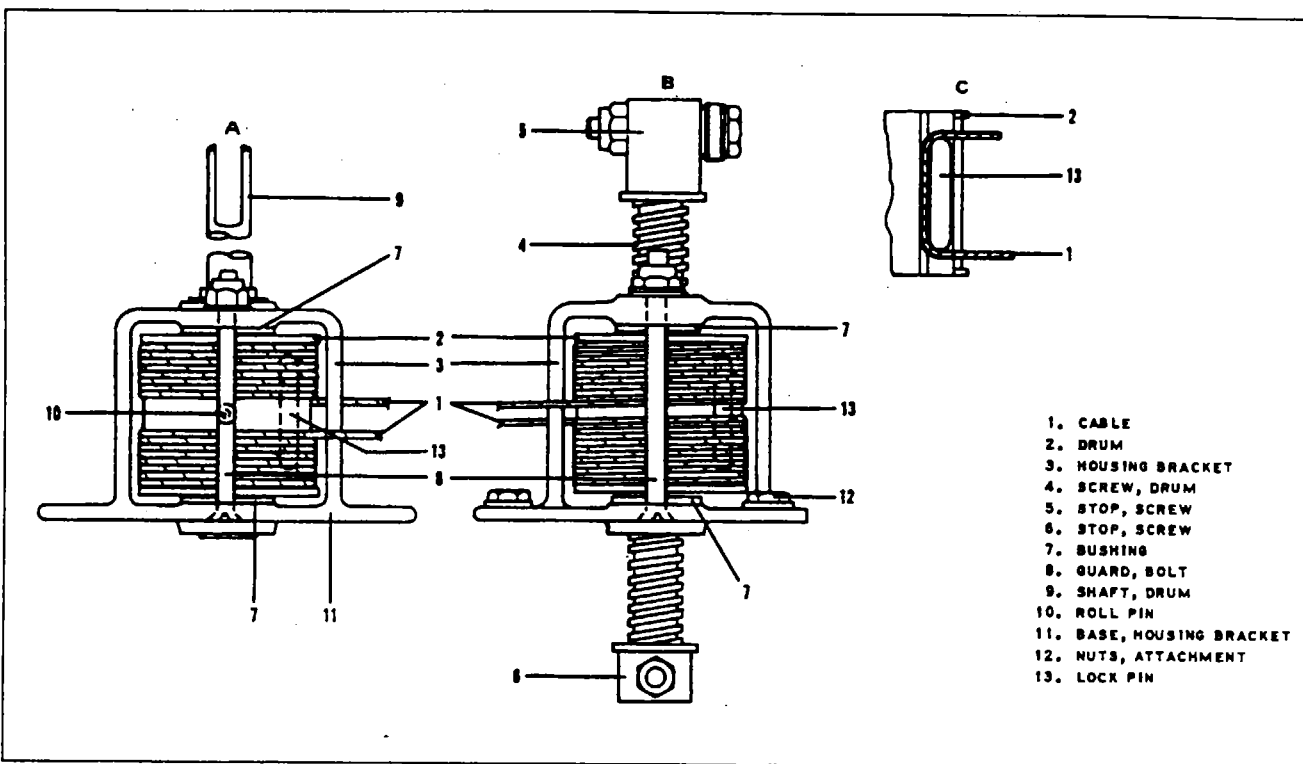

Figure 5-16. Trim Screw Assembly
5-54. WRAPPING THE TRIM DRUM. (Refer to Figure 5-16.) All trim drums are wrapped basically by the same procedure and must be removed from the airplane.
- e. Unwrap the trim cable (1) and remove the cable and lock pin (13) from the drum. (If one end of the cable has been marked to facilitate hook-up of the cable ends, note this location in relation to the drum when installing a new cable on the drum.)
- f. Check the condition of the bushings (7) in the housing bracket for excess wear.
- h. Insert the center of the cable into the cable slot in the drum and install the lock pin (13).
- i. Hold the drum (2) with the previously marked or base end of the drum down.
- k. Insert the drum in the housing bracket, position the drum and route the cables from the assembly as shown in Figure 5-16.
- l. Install the screw (4) and screw stop (5) or the drum shaft (9) and secure with the roll pin (10).